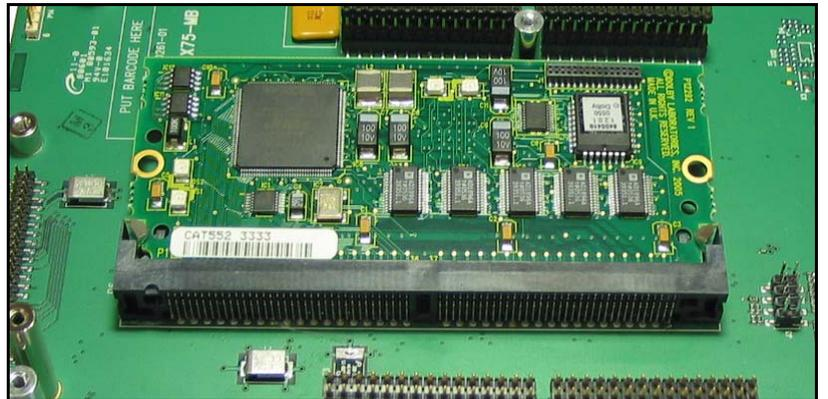

Figure C-40. Dolby Decoder Module Installed
7. Press the module edges down slowly until you hear the metal clips click. (See Figure C-40.)